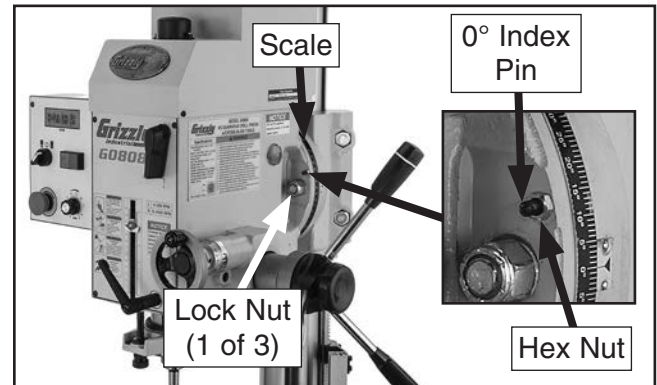

Figure 40. Head tilting controls.
The head tilts from 30° left to 90° right. The 0° index pin locks the head perpendicular to the table and must be removed before tilting the head. A scale on the side of the head indicates the angle of tilt (see **Figure 40**).
2. Tighten hex nut on 0° index pin (see **Figure 40**) against headstock, which will force pin out. Pull pin out of hole to allow head to tilt in following steps.
- If tilting head to an angle other than 0° (perpendicular to table), use scale (see **Figure 40**) as a guide for setting tilt angle.